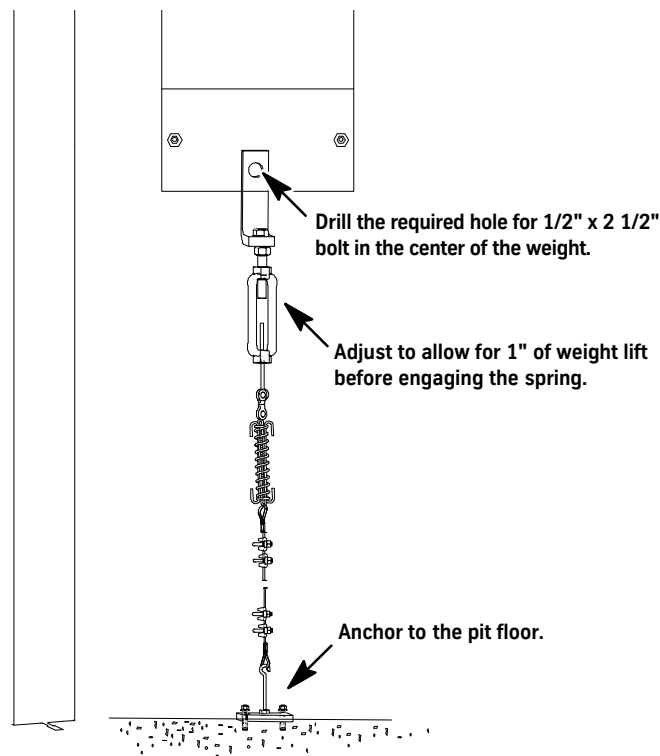

Figure 8 - Tailweight Tie-Down
6. Install the tie-down assembly, from the weight to the pit floor. See Figure 8.